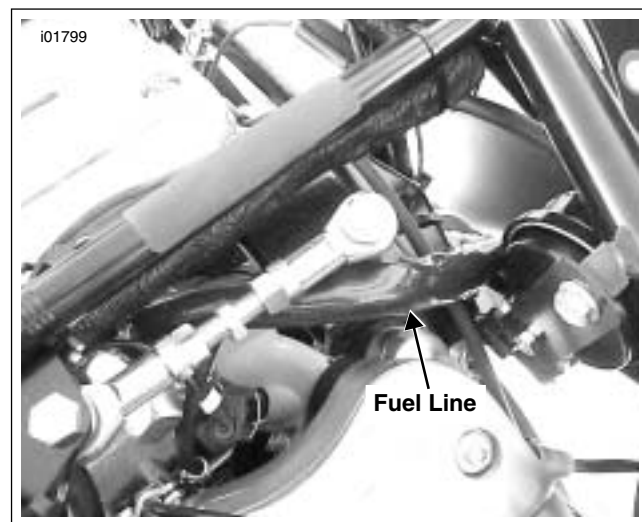

Figure 2. Fuel Line Routing
- See Figure 2. Attach long section of fuel line, provided in kit, to the fuel rail with hose clamp. Tighten hose clamp. Slide the sheathing saved from removal over the hose and route hose as shown.